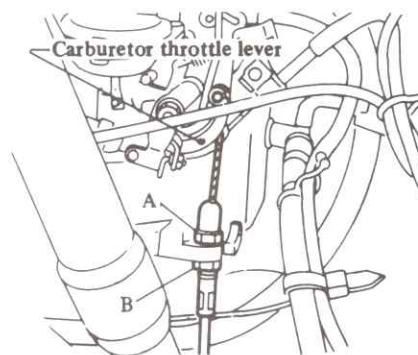

Fig. 7.8 Kickdown (throttle) cable locknuts A and B at carburettor end (Sec 7)
- 3 Unscrew nut B between one and one and a half turns and secure it in this position by tightening nut A (see Fig. 7.8).